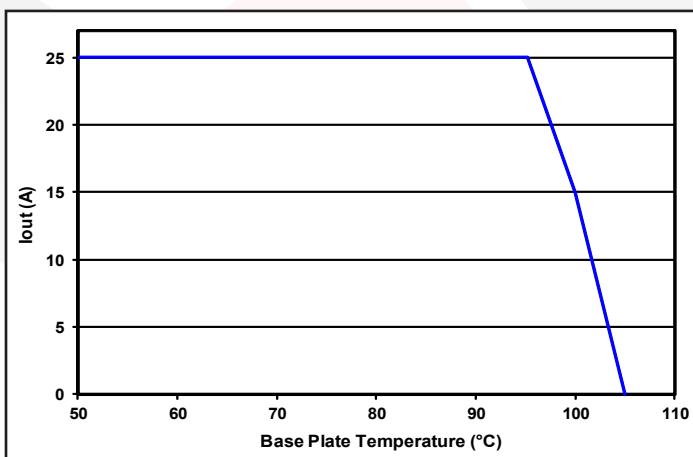

Figure 5: Maximum output current vs. base plate temperature (nominal input voltage).
**Thermal Considerations:** The maximum operating baseplate temperature,  $T_{Bp}$ , is 100 °C. Refer to the thermal derating curve, Figure 5, to see the available output current at baseplate temperatures below 100 °C.